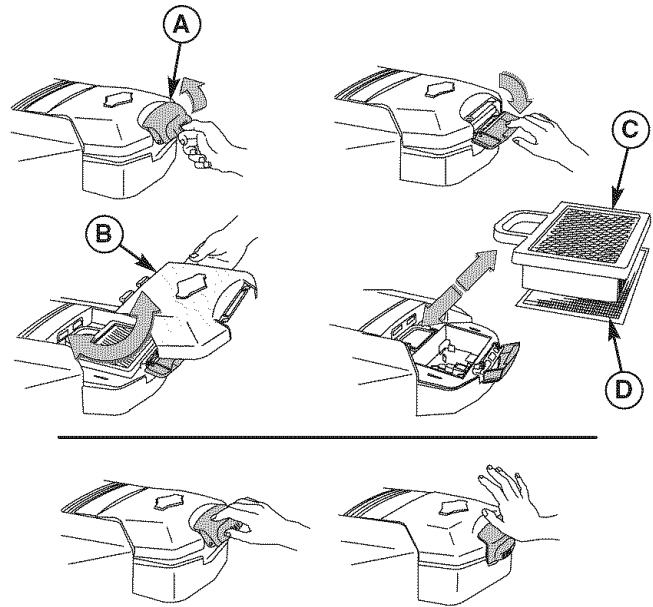

Figure 30. Air Filter Assembly - Briggs & Stratton Models
1. Lift up on the bottom of the latch (A, Figure 30) and flip the latch away from the cover.
2. Remove the cover (B). Remove the filter (C) and pre-cleaner (D).
3. Install the pre-cleaner (D) with the mesh side up. Install the filter (C) as shown.
4. Install the cover (B) making sure the tabs are inserted into their slots. Secure with the latch (A).